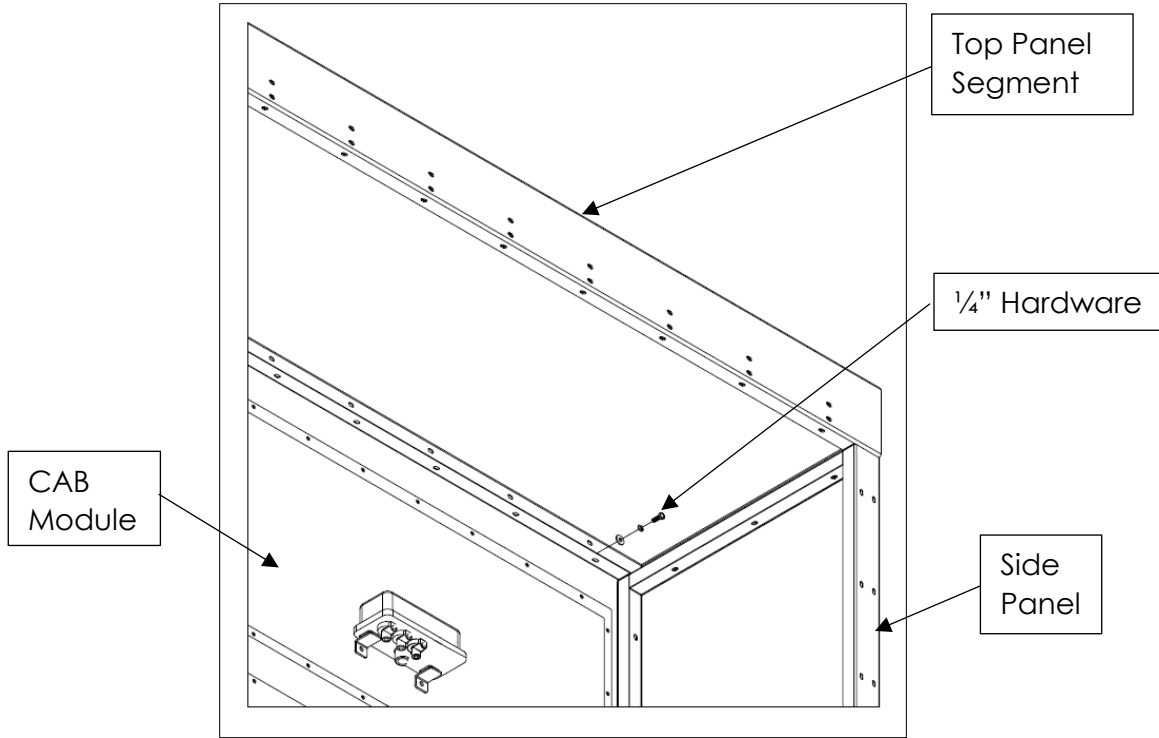

FIG. 10
5. Once the top panel is set flush on the side panels, bolt to the CAB module and panels (see **FIGS. 10, 11**). The top panel assembly will bolt to the CAB module and in the side panels. Make sure to bolt through holes located nearest inside flange of panels.